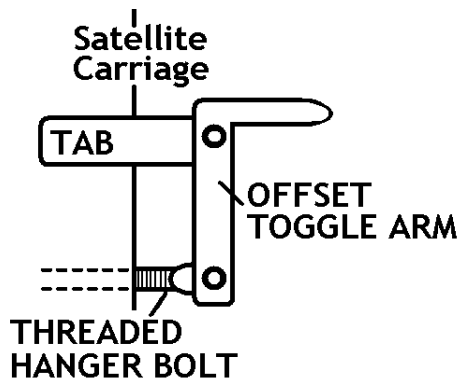

Fig. 26 – Satellite carriage end of reversing mechanism
51 Screw threaded hanger bolt from parts sack into threaded hole on reversing rod end closest to bin wall until bolt holes on threaded hanger bolt and toggle arm align. See Fig. 26.
- 52 Bolt threaded hanger bolt (now screwed into reversing rod) to toggle arm using a 5/16" shoulder bolt and 1/4" lock nut. Ensure reversing mechanism is still in centered position; toggle arm should still be parallel to edge of carriage. See Fig. 26.